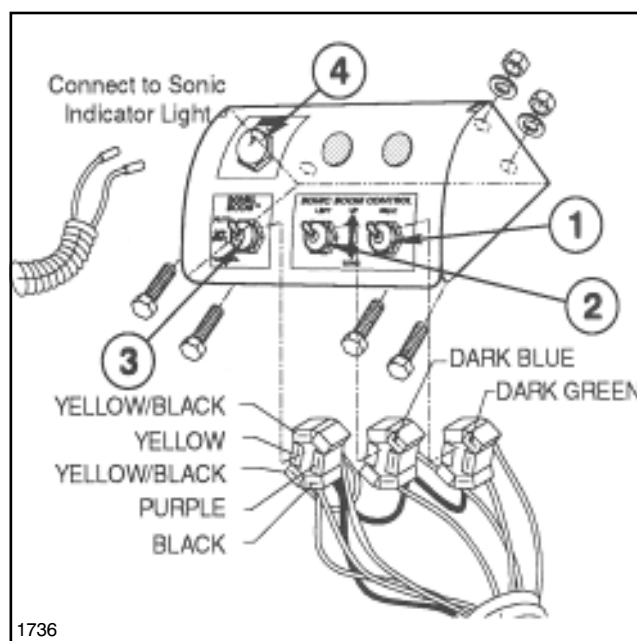

FIG. 3
11. Install Switch Bracket to dash using four (4) 1/4 NC x 5/8" hex hd cap screws, lock washers, and hex nuts as shown in FIG. 3.
12. Install two (2) Boom Switches (included in Boom Lift Kit), Sonic Boom™ Mode Switch, Sonic Boom™ Indicator Light, and Decals. Connect Wiring Harness as shown in FIG. 3.